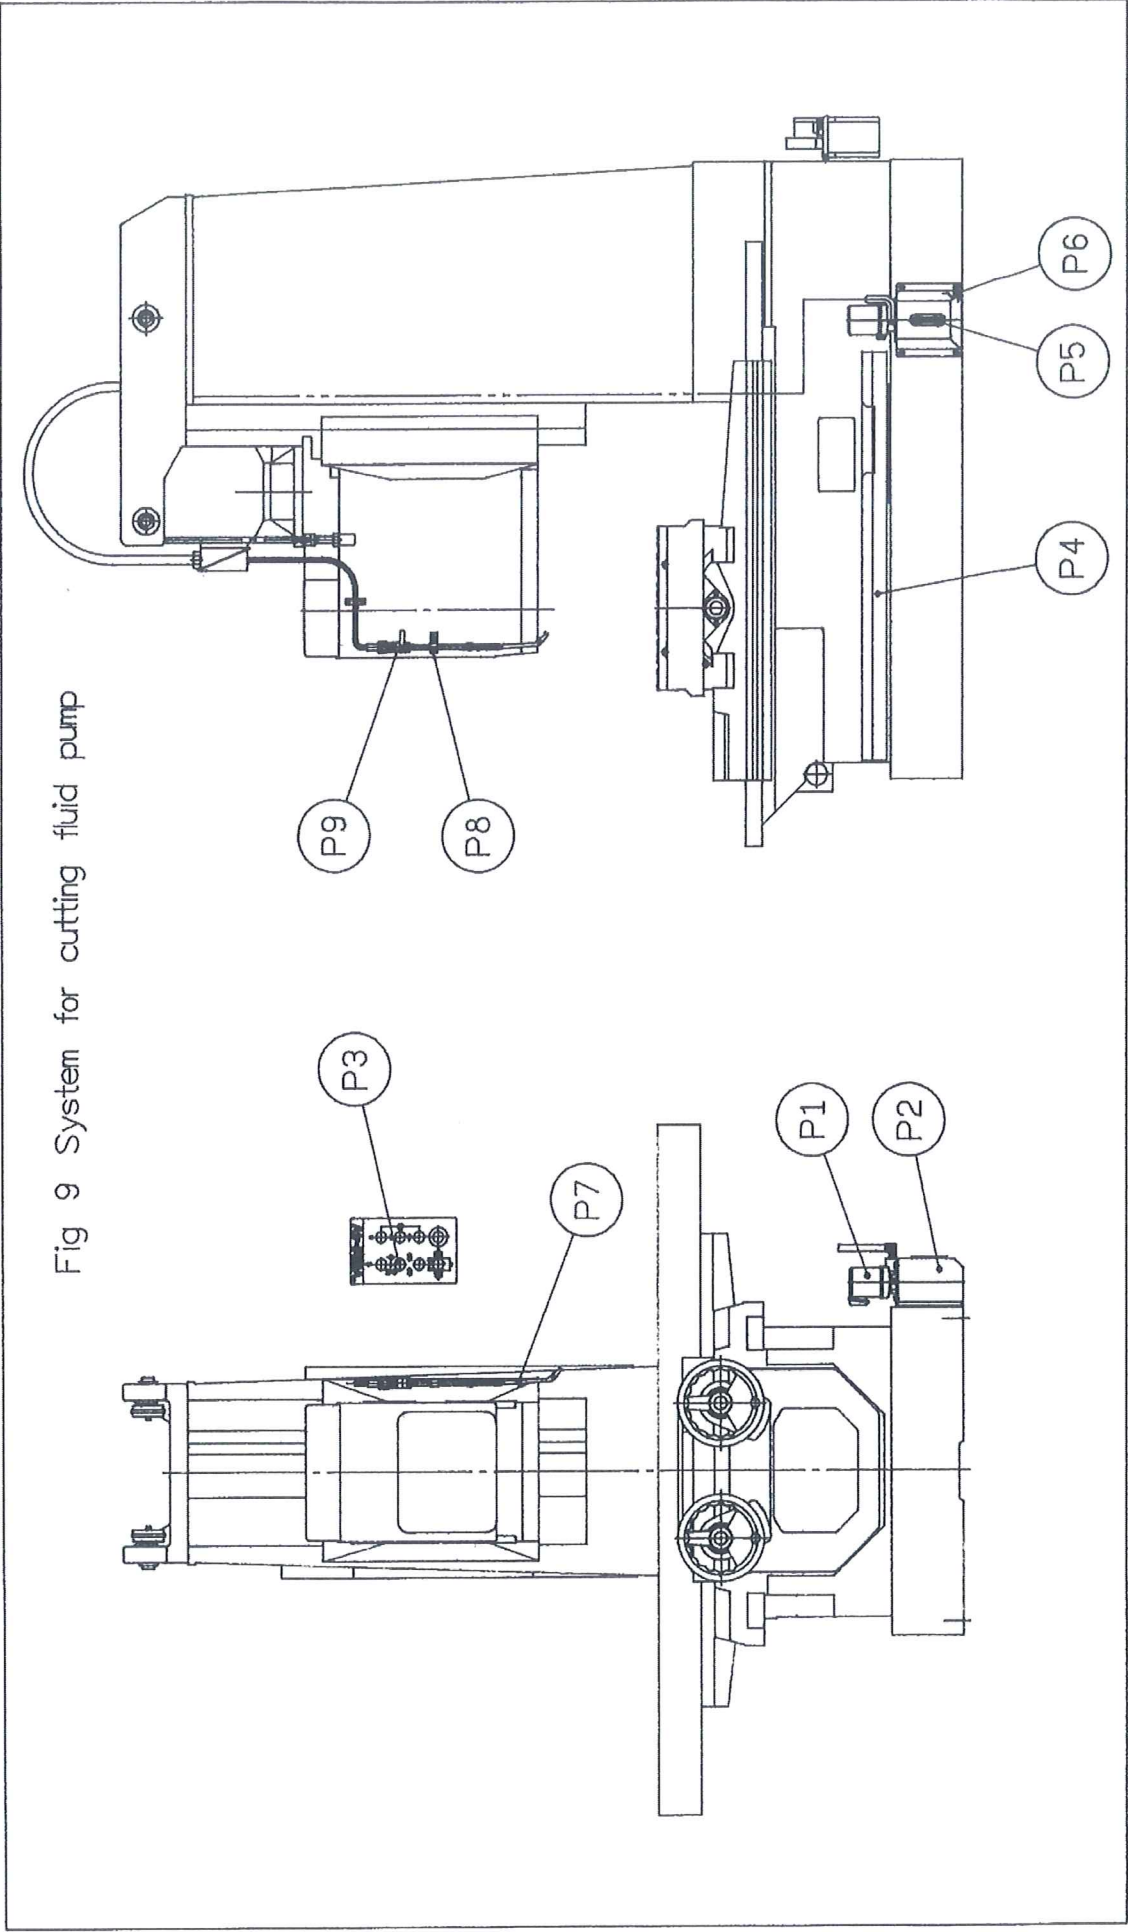

Fig 9 System for cutting fluid pump
4. Cutting Fluid Pump Device (Fig 9)